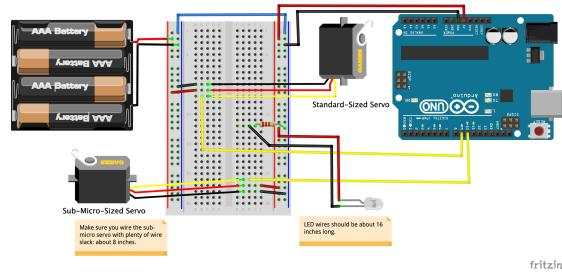

Figure 7-22 Detail of the elevation arm with the mounted LED and wiring
- Run the wires through the hole cut for the elevation servo wires, leaving enough slack for the elevation arc to pivot comfortably through its range (Figure 7-22).